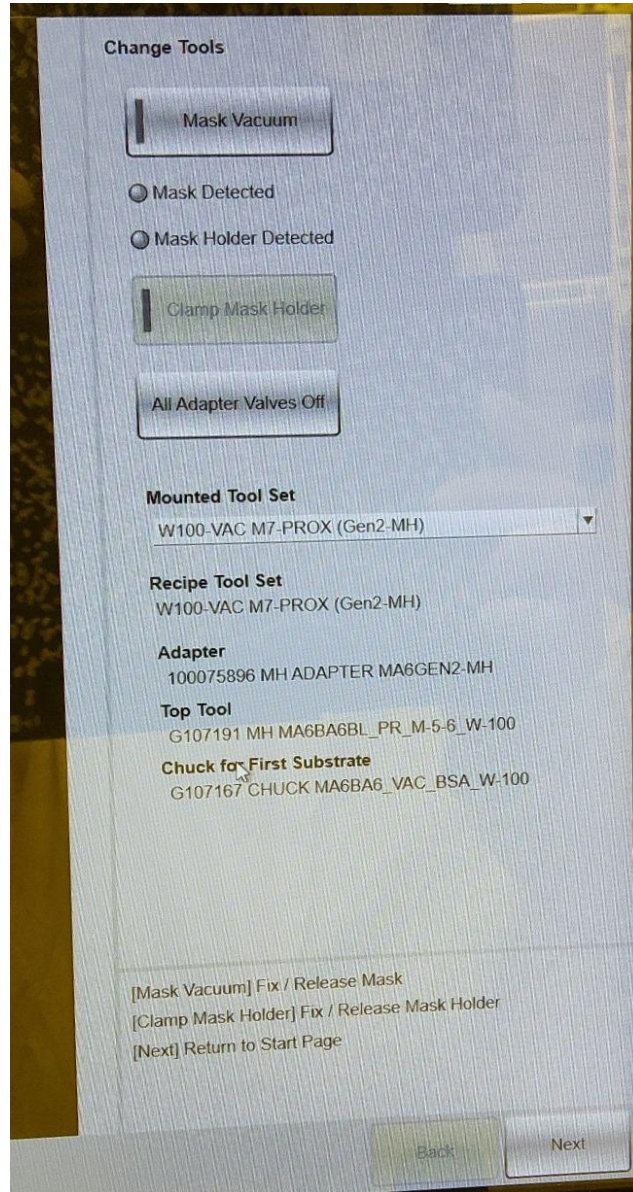

Figure 2.
3. After pressing the “Change Tools” button the change tools screen appears. The change tools screen is shown in Figure 2.